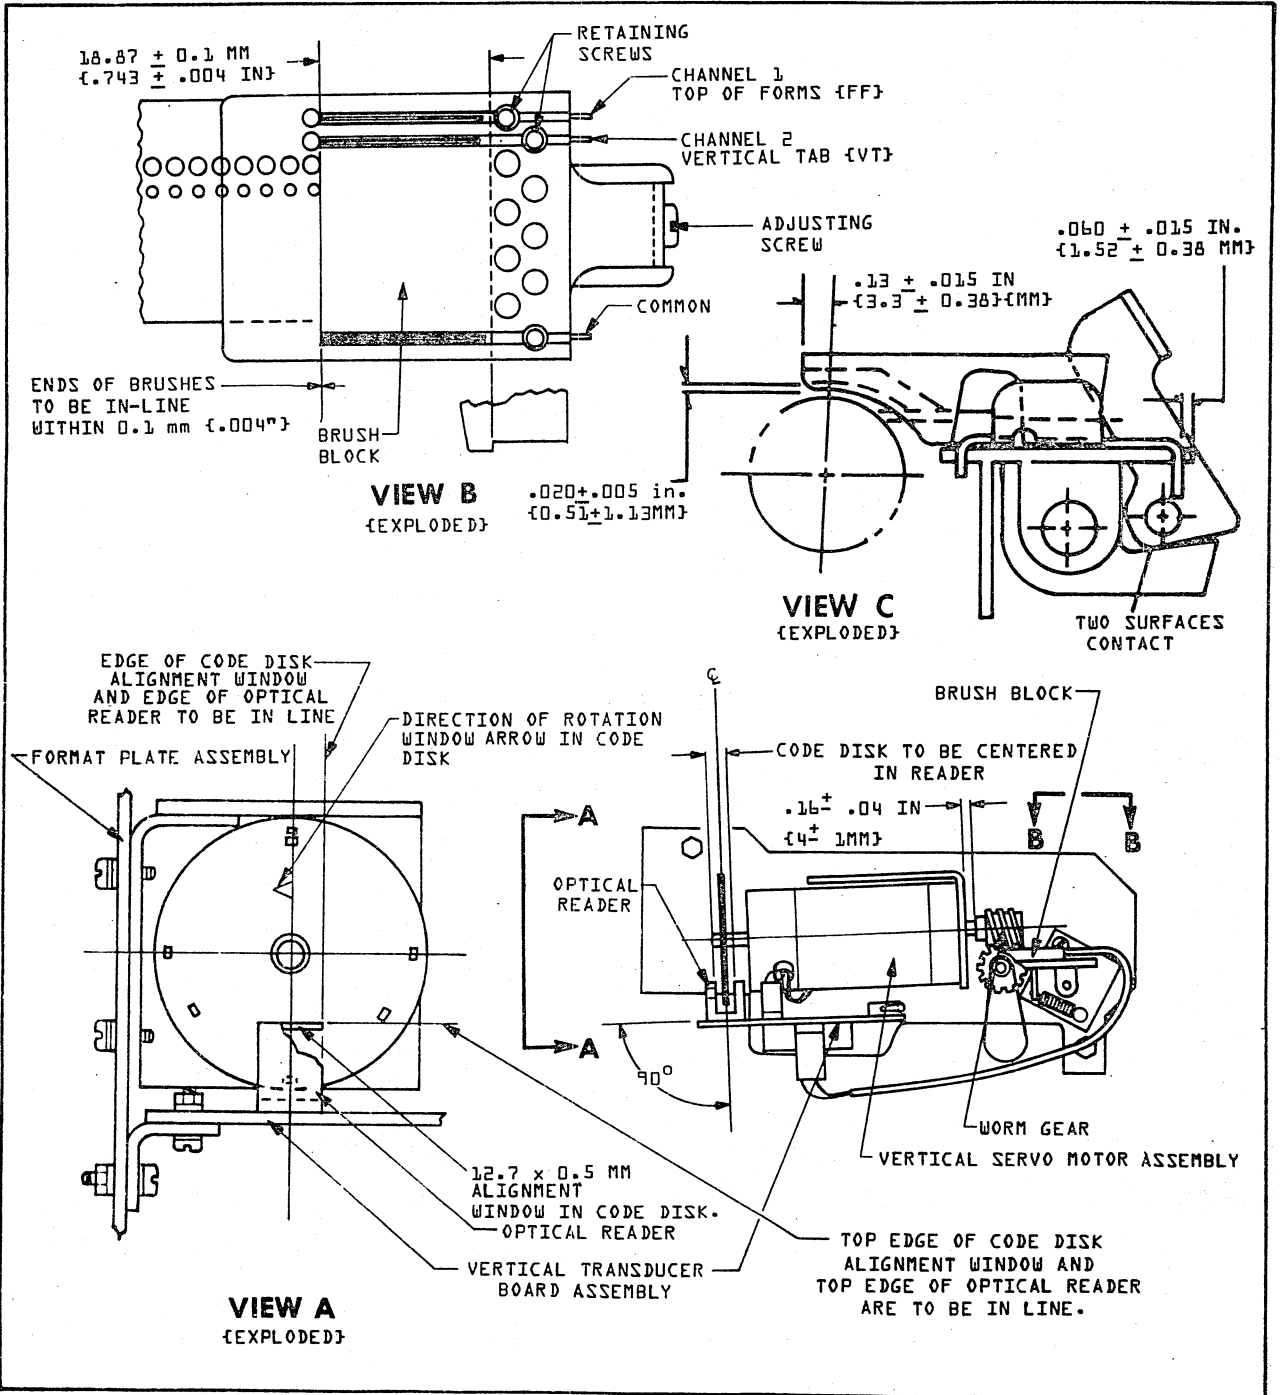

FIGURE 7-5. VERTICAL PAPER MOTION AND FORMAT READER ADJUSTMENTS
Tests (Figure 7-5)
1. The location of the worm gear on the motor shaft should be .16 \pm .04 inches (4 \pm 1 mm) from the front surface of the motor mounting bracket as shown in Figure 7-5.
Adjustments (Figure 7-5)
1. Loosen the set screws that secure the worm gear to the motor shaft. Position and tighten the gear on the shaft to the dimension shown above and in Figure 7-5.
2. Check to see if the optical reader is positioned to the code disk as shown in Figure 7-5.
1. Loosen the two screws that mount the vertical transducer board assembly to the format plate assembly. Adjust the vertical transducer board assembly and its optical reader to the code disk as shown in Figure 7-5. Tighten the two mounting screws.
1. Check the distance the ends of the three brushes are from the step in the brush block (Figure 7-5).
1. Loosen the brush retaining screws and locate the brushes at the proper length per Figure 7-5.